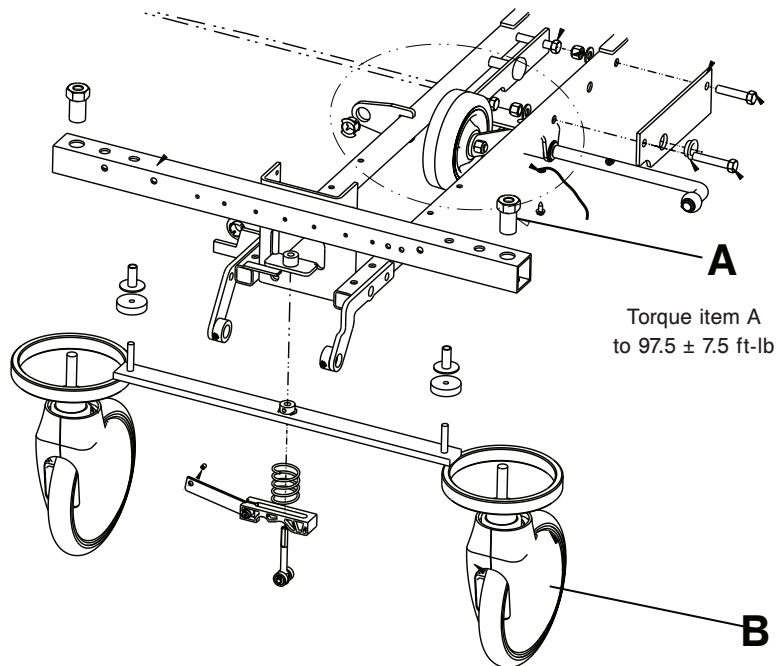

Figure 2 – Caster assembly replacement
5. Using a 3/4" combination wrench and a 3/4" socket, remove the caster nut (A) that secures the caster (B) to the base frame (Figure 2). Save the nut.